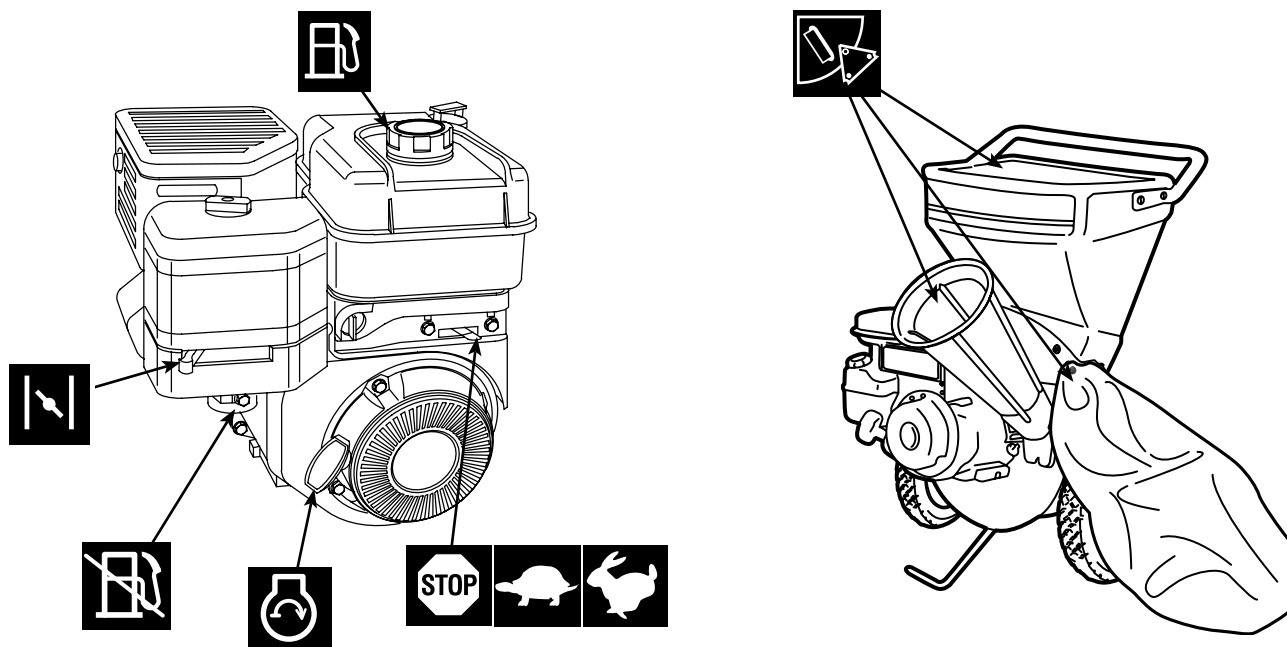

Figure 1. Controls
1. Remove the fuel cap (see Figure 1).